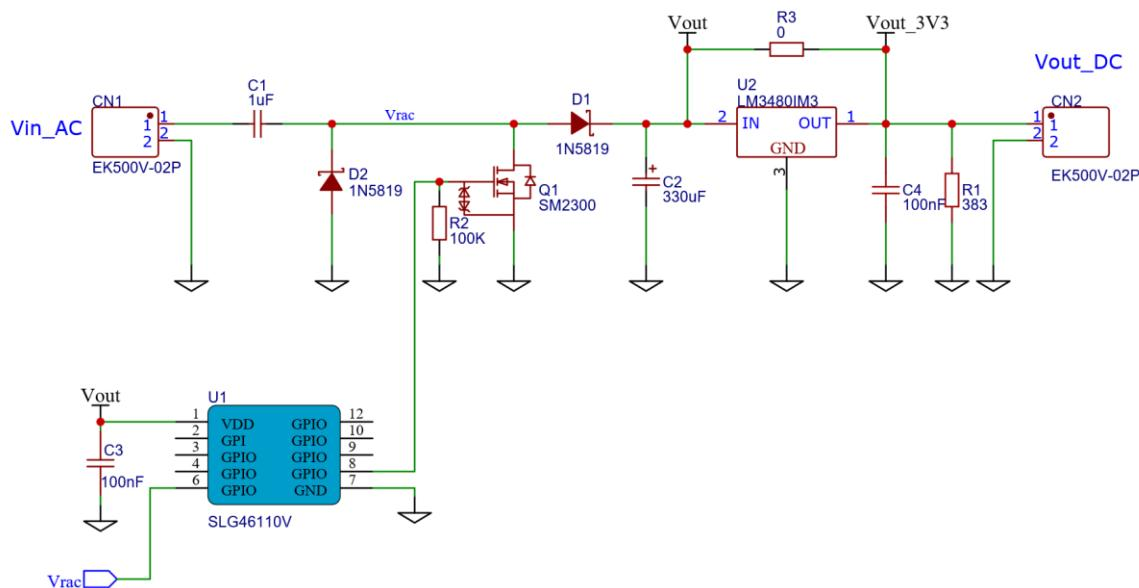
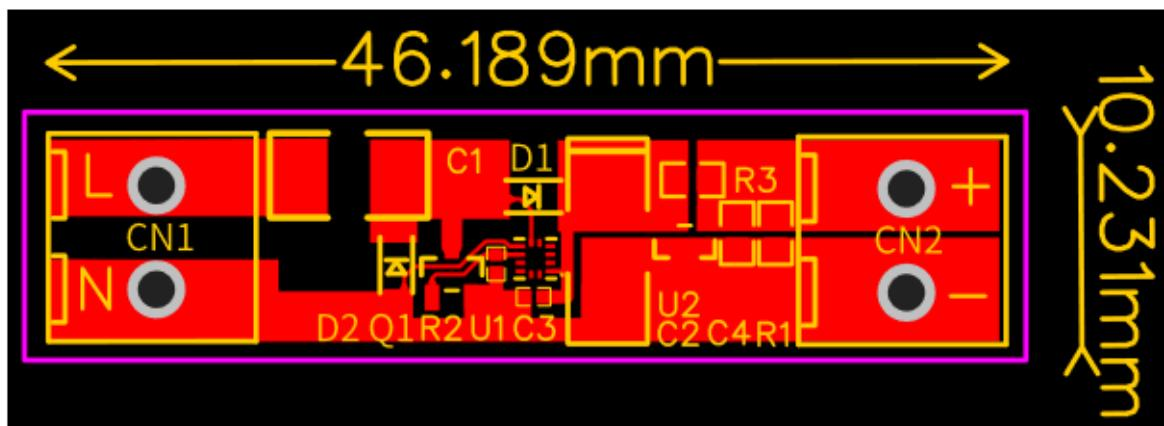
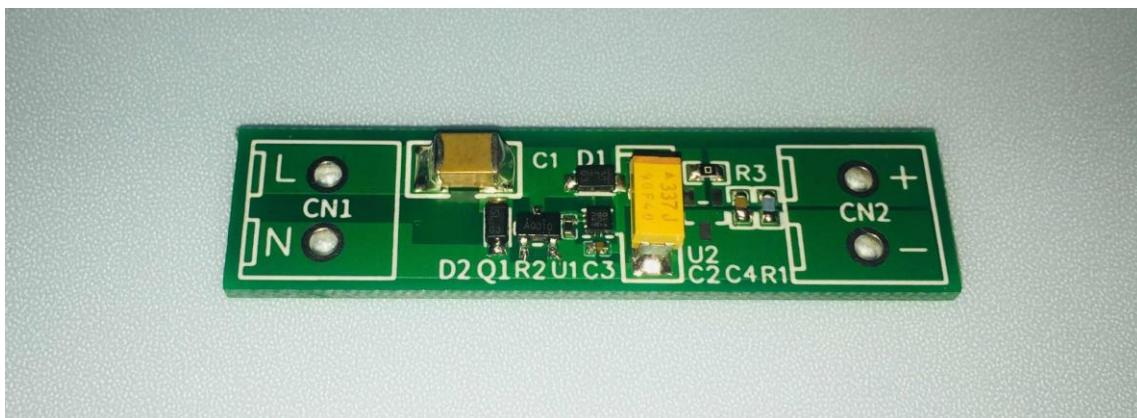
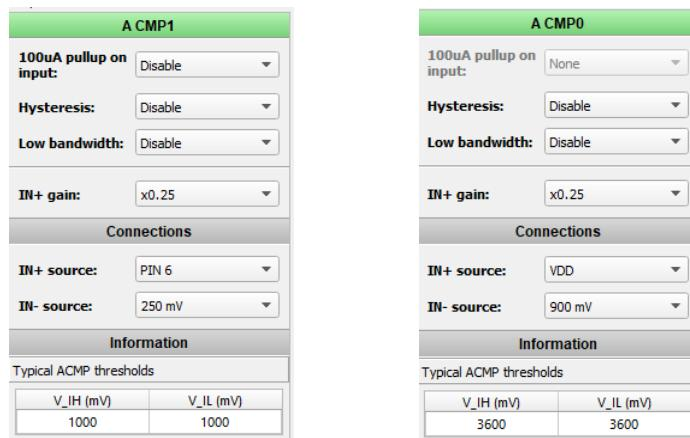

Figure 3: CCSS Regulator Schematic
Figure 4: CCSS Regulator PCB Layout
Figure 5: CCSS Regulator Prototype
Figure 7: ACMP0 and ACMP1 Configuration Settings
Figure 3 depicts the circuit schematic of the low power AC-DC converter module. It uses the SLG46110 (U1) to control the CCSS. The module operates at an input AC voltage range from 90V to 260V(CN1), and over a non-isolated output of 3.3V (CN2). An optional LDO (U2) is added after the V_{out} to further stabilize the output voltage. The SLG46110 device generates the control signal that switches the MOSFET shunt (Q1) based on the V_{out} and V_{rac} threshold levels. 1N5817 Schottky diodes were used for D1 and D2. Since the dissipation factor (DF) of C_s has a large effect on the efficiency of the circuit, a $1\mu F$ capacitor with a relatively small DF of 40×10^{-4} is used for C_s . Figure 4 shows a picture of the PCB Layout of the board. Figure 5 shows a photograph of the complete design PCB described in this app note.
As shown on Figure 3 VDD of the SLG46110 device is connected to V_{out} and PIN6 to V_{rac}. ACMP0 is used to sense V_{out} voltage. With the additional logic, it will turn off the MOSFET shunt when V_{out} < 3.6V. ACMP1 is used to sense V_{rac} voltage. It will turn on the MOSFET shunt when V_{rac} < 1V. Refer to Figure 7 for the ACMPs settings.